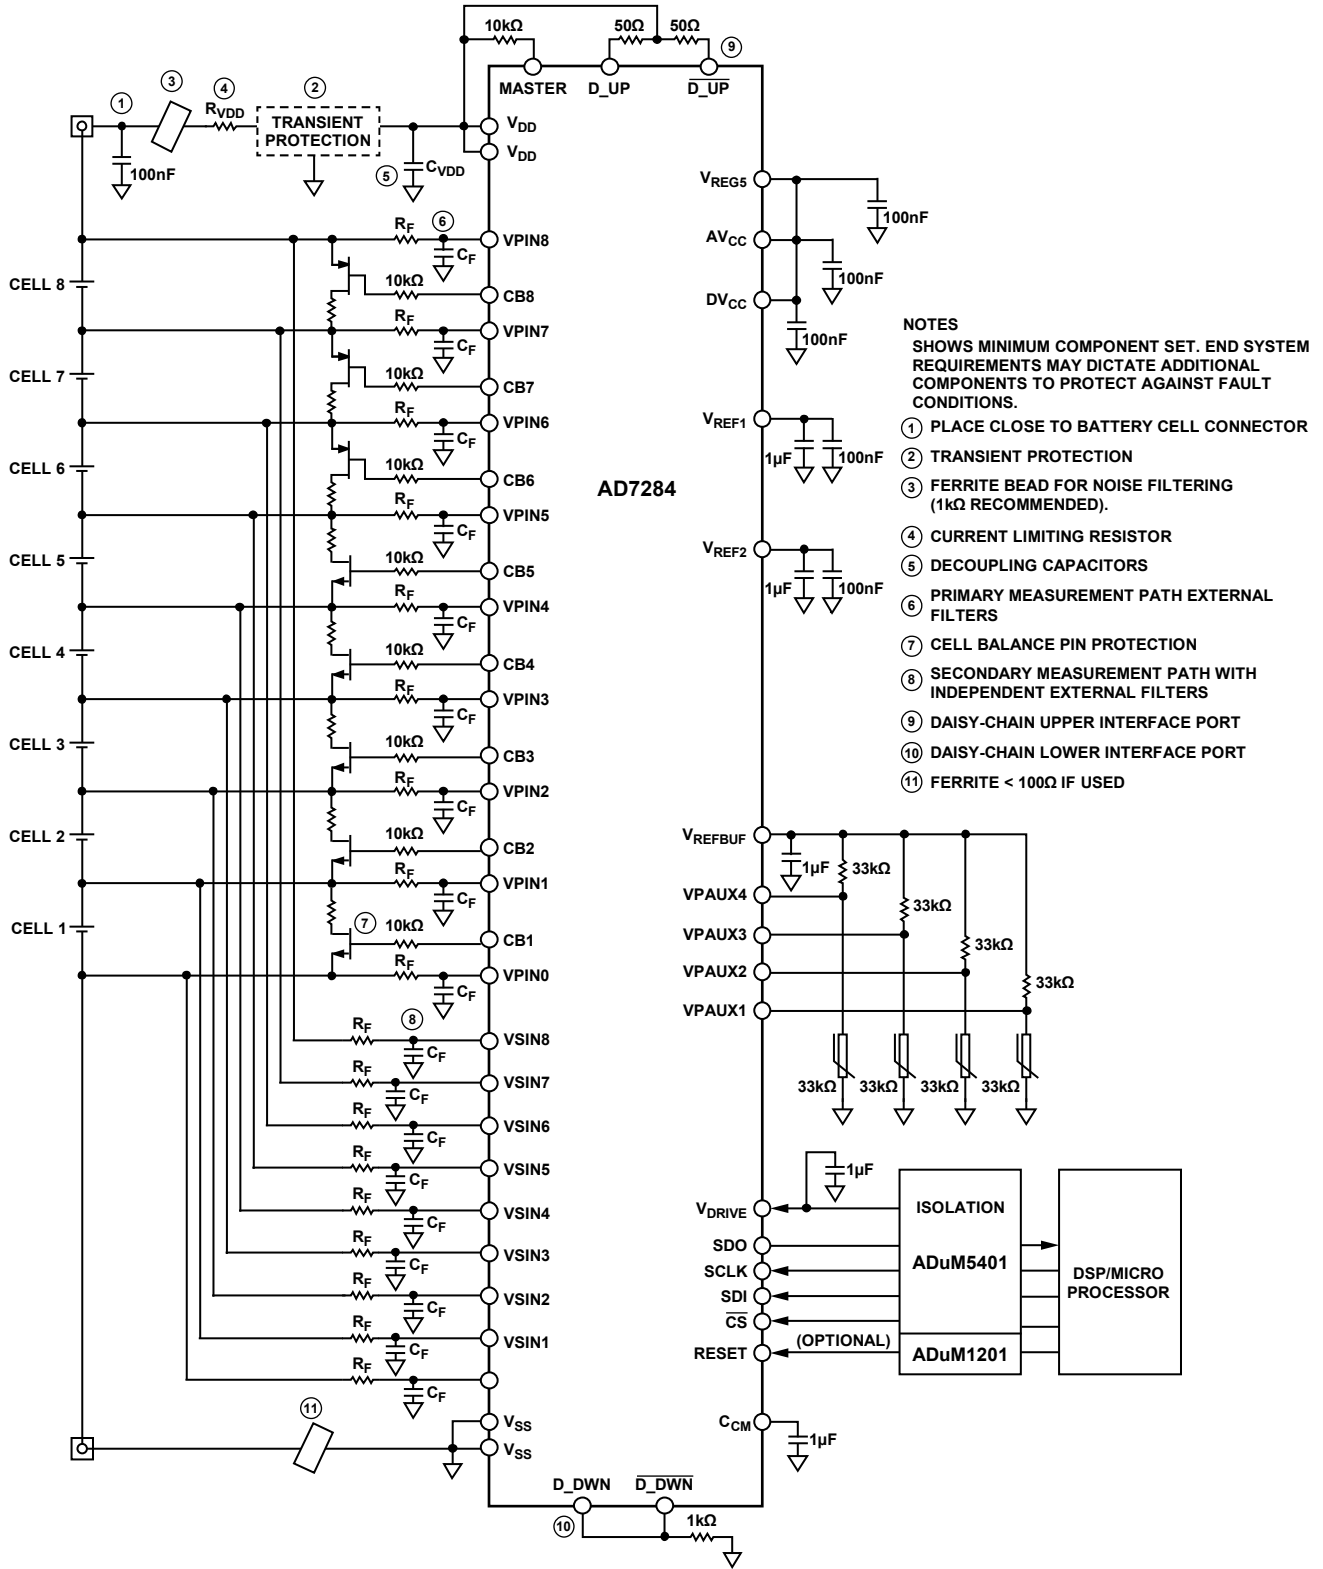
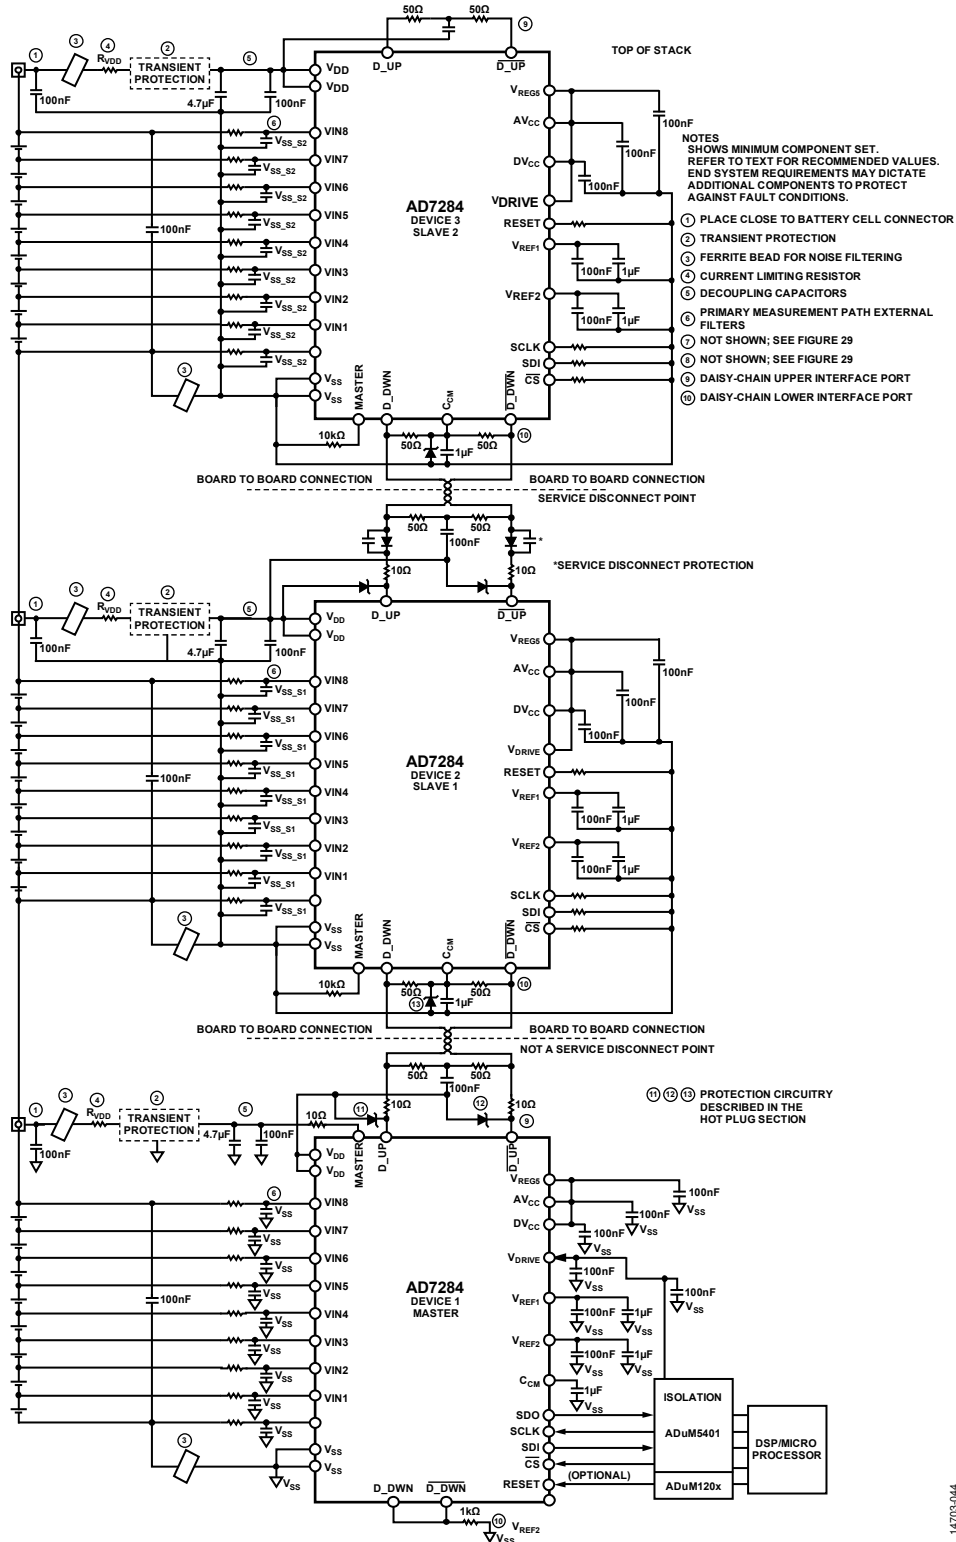

Figure 41. AD7284 Master Configuration Diagram for Eight Battery Cells
Figure 42. AD7284 Daisy-Chain Configuration with Three Devices, Where All Devices are on Separate Boards
Figure 41 shows an example of components for a master device, monitoring eight cells using two independent filters (on the primary and secondary path), and monitoring temperature on four thermistors.
The following notes refer to the notes detailed in Figure 41 and Figure 42:
3. Ferrite bead to filter supply noise. Typically, 1 k Ω ferrite (100 MHz) is recommended in the V_{DD} path. If a ferrite is required in the V_{SS} line, it is recommended to use a value <100 Ω (100 MHz). This note applies to the master or slave configurations. See Note 11 in Figure 41 and see Note 3 in Figure 42.
Note that the 1 μ F capacitor on V_{DRIVE} shown in Figure 41 is an ADuM5401 requirement. It is recommended to add 100 nF decoupling on the V_{DRIVE} pin.
Li-Ion battery applications require a significant number of individual cells to provide the required output voltage. Figure 42 shows the recommended configuration of a chain of AD7284 devices monitoring a larger battery stack. The daisy-chain interface of the AD7284 allows each AD7284 to communicate with the AD7284 immediately above and below it. The daisy-chain interface allows the AD7284 devices to be electrically connected to the battery management device without the need for individual isolation devices between each AD7284. One AD7284 acts as the master device, interfacing through the standard SPI interface to the host processor and to the chain of connected slave devices.
Figure 42 shows how a chain of three devices can be configured to operate on individual boards, if required; the same configuration can be used if all devices are mounted on the same board.